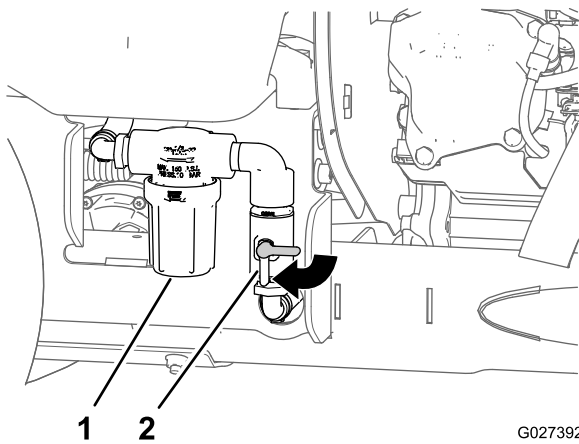

Figure 40
6. Rotate the pump-shutoff valve clockwise to the OPEN position (Figure 40).